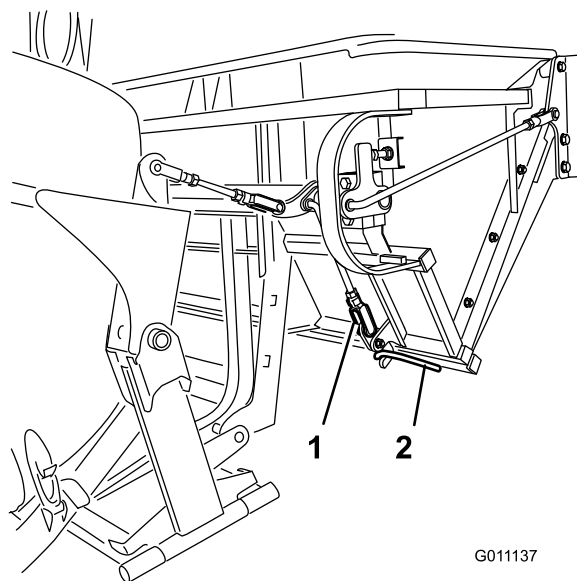

Figure 43
4. Check the to ensure the latches completely engage and contacts the latch rod welded to the door (Figure 43).